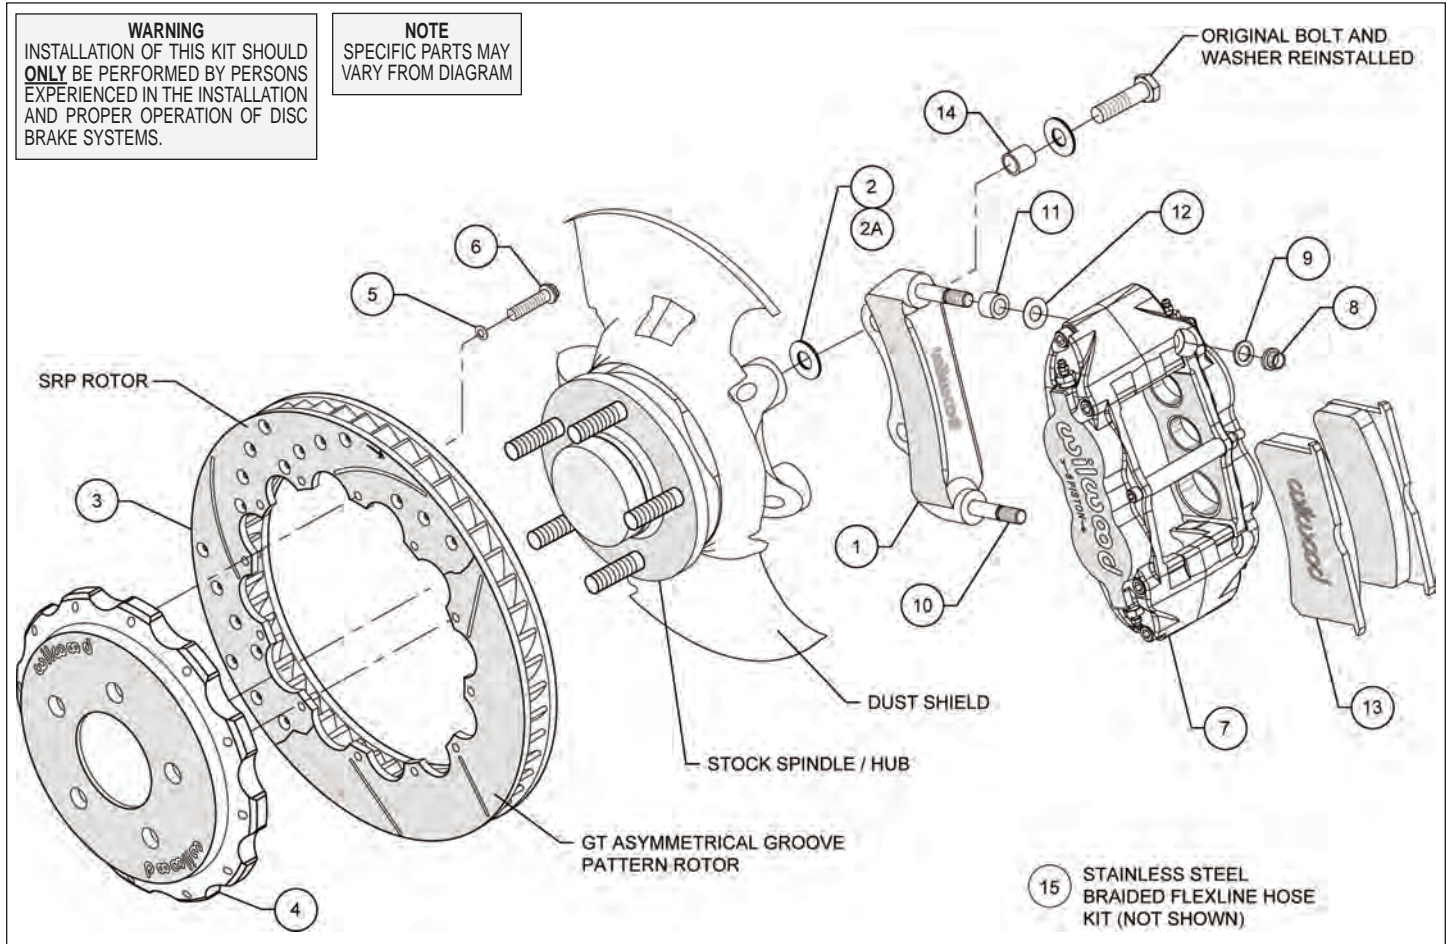

Figure 1. Typical Installation Configuration
- The caliper mounting bracket assembly (1) should be installed first with clean, dry threads on the mounting bolts. Install the bracket from the rear side of the spindle by sliding the original stock bolts through washer, sleeve (14) (sleeve only utilized on 2004 model year), and bracket (1). Place shim washer (2 or 2A for 2004 model year) between the bracket (1) and the spindle (see Figure 1). The bracket must tighten squarely against the side of the spindle body. Inspect for interference from casting irregularities, machining ridges, burrs, etc. Use one thin shim (2 or 2A) between the bracket (1) and spindle during initial trial fitting.
- NOTE:** This kit contains distinct right and left hand calipers that must be mounted in a specific direction, as described below. Lubricate the caliper mounting studs (10) with lightweight oil. Initially place one .035" thick shim (12) and spacer (11) on each stud as shown in Figure 1. Mount the caliper (7) onto the bracket (1) using lock nuts (8) and washers (9), Figure 1. Ensure that the caliper is mounted so that the largest pistons are at the rotor exit end of the caliper, in relation to the direction of rotor rotation. Temporarily tighten the lock nuts and view the rotor through the top opening of the caliper. The rotor should be centered in the caliper. If not, adjust by adding or subtracting shims (2 and/or 2A) between the bracket and the upright. Always use the same amount of shims on each of the two mounting bolts. Once the caliper alignment is correct, remove the bracket mounting bolts one at a time, apply red *Loctite*® 271 to the threads, and torque to manufacturer's specifications.
- Remove the caliper center bridge pad retainer bolt, nut, and tube from the caliper. Slide the brake pads (13) into place. They should install easily without interference. Check that the outside radius of the brake pad is aligned with the outside diameter radius of the rotor face. Add or subtract shims (12) between the caliper and mount bracket to gain the proper alignment. Reinstall the center bridge pad retainer tube, bolt, and locknut. The locknut should be snug without play in the bolt or tube. Be cautious not to over tighten.
- Once all clearances have been checked, remove the wheel, caliper, hat, and rotor from the spindle and hub. Secure the caliper mounting bracket (1) to the spindle with original stock bolt using red *Loctite*® 271. Torque the bolts to manufacturers specifications. Reinstall the hat and rotor assembly and again use lug nuts to hold it in place. Lubricate caliper mounting studs and nuts with lightweight oil, reinstall the caliper, torque the caliper nuts (8) to 30 ft-lb.
- NOTE:** OEM rubber brake hoses generally cannot be adapted to Wilwood calipers. The caliper inlet fitting is a 1/8-27 NPT. Install Wilwood hose kit included in this kit (15), P/N 220-14177, which includes hoses, fittings, etc., all in one package for this application, Photo 1. Minor repositioning of the hard line is required to align it with the new fitting location. **Carefully route lines to prevent contact with moving suspension, brake or wheel components.** Wilwood hose kits are designed for use in many different vehicle applications and it is the installer's responsibility to properly route and ensure adequate clearance and retention for brake hose components.